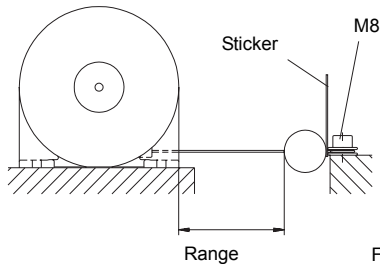

Fig. 2
- Remove the transport safety cable tie (2).
- Fix the wire end, eg. by using a screw M8 (fig. 2).
The sticker on the wire end should be attached visibly at the mounting place (fig. 2). For correction function the wire must remain without kinks or flattening.